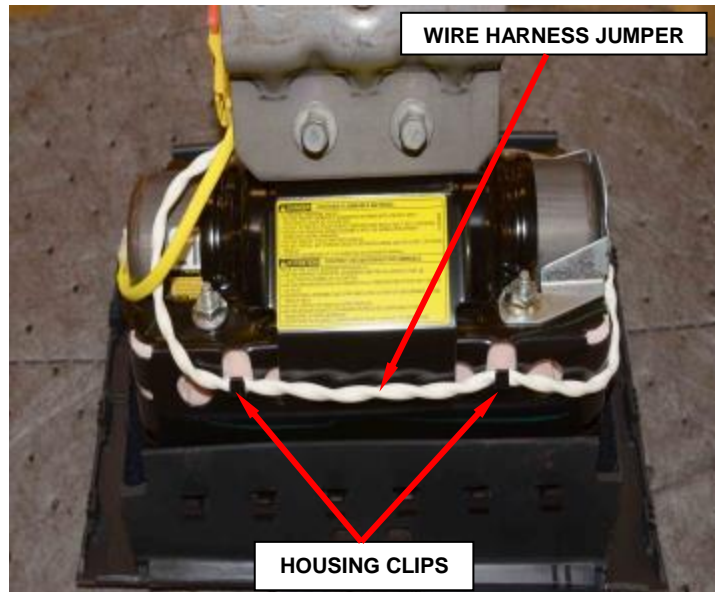

Figure 95 – Passenger Airbag Assembly
- b. Disengage the wire harness jumper from the housing clips in two places (Figure 95).